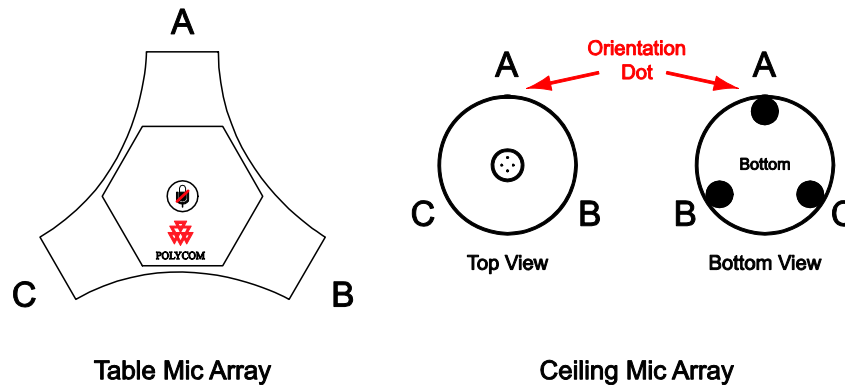

Figure 6. Polycom table and ceiling microphone arrays have three microphone elements labeled A, B, and C.
- Each complete Polycom microphone array has three microphone elements and requires three available inputs on the SoundStructure device (see Figure 6).